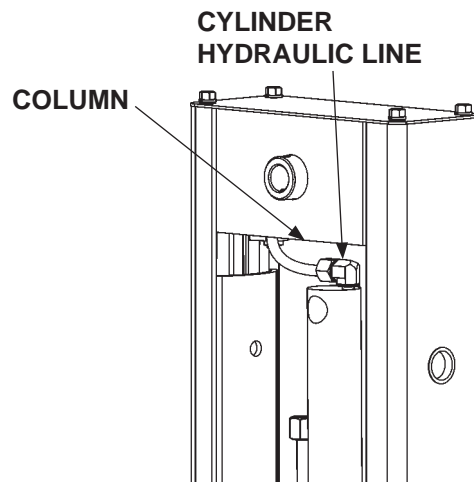

FIG. 31-2
23. Connect hydraulic line on top of cylinder (**FIG. 31-2**). Raise the cylinder slowly to top of column.
26. Place tandem assembly in replacement runner as shown in **FIG. 31-2**. Reinstall the anchor pin (**FIG. 31-2**) holding tandem assembly to runner. Bolt the anchor pin to runner (**FIG. 31-2**).